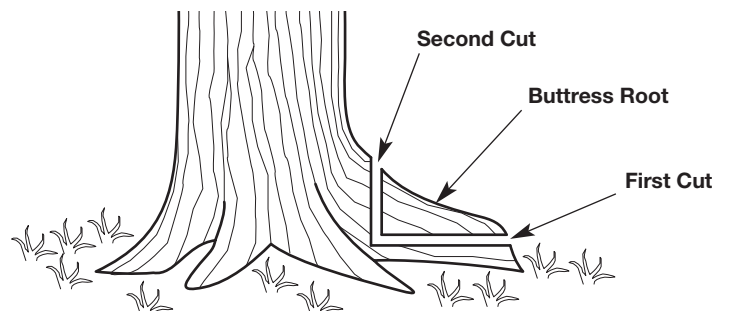

Fig. 23
1. Make a horizontal cut into the buttress root (Fig. 23). To prevent the guide bar from being pinched by the weight of the wood, always make this cut first.
2. Make a vertical cut into the buttress root (Fig. 23).